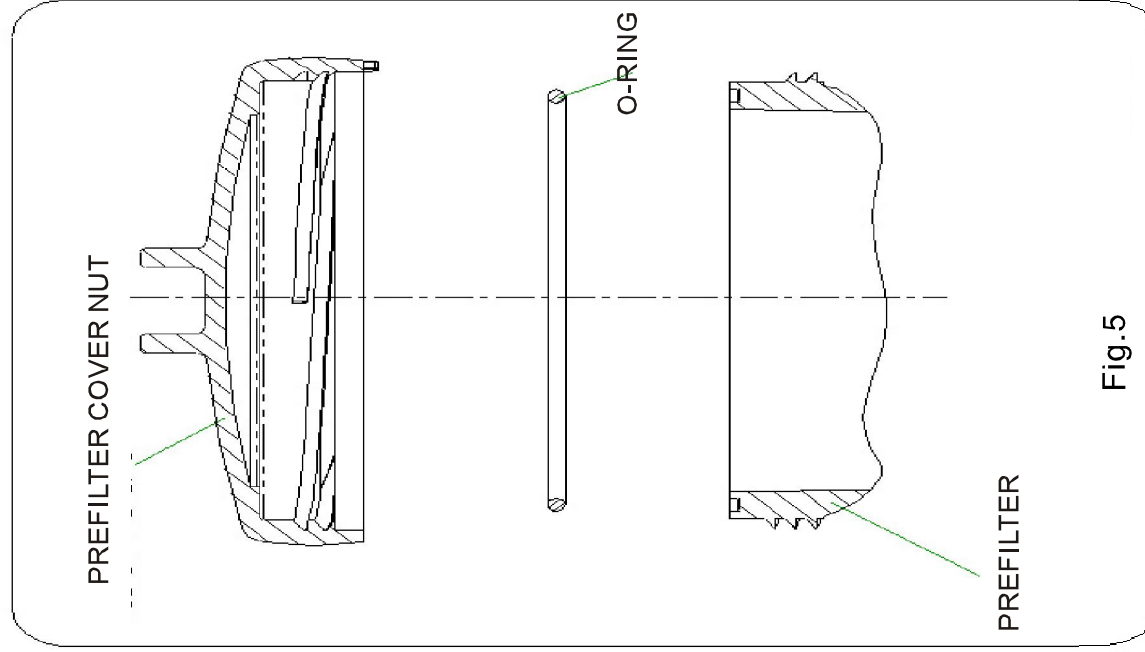

Fig.5
1. Take off the pre-filter cover, unscrewing the nut that holds it (See Fig.5).
- Put the cover on the pre-filter and screw it closed, without forgetting to place the O_1 ring in position. (Fig.5)
- Each time the pre-filter is opened, clean impurities from the joint seating and the joint itself, to ensure sealing on closure of the cover. (Fig.5).